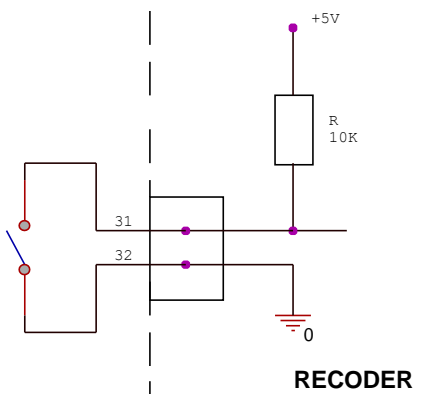

Figure 2.26 – Digital input connection example
2.2.1.5. One of the examples how digital input is being used shown on the *Figure 2.26*. To the **terminals 31, 32** (Channel 13) are connected relay contacts. To **terminal 31** from **RPM-16-4-3** there is connected 10 kOhms resistor and power supply of +5V DC is given through it. To the **terminal 32** neutral wire is connected. **RPM-16-4-3** will read logic value (if $< 0,5V$ – then it's logical zero and all the other cases it's logical 1) on **terminal 31**.